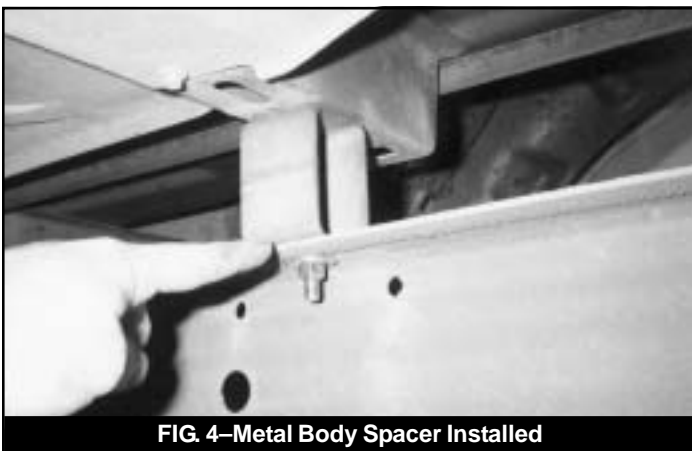

FIG. 4—Metal Body Spacer Installed
47. Install the metal body spacers at the four points where the bed cross members rested on the frame. Remove the rubber pads from the frame at the four contact points. Install the metal spacers and align the holes in the spacers with the holes in the frame where the pads were located. Use 3/8" x 1" bolts, 3/8" USS washers, and lock nuts to secure the spacers to the frame (Fig. 4).